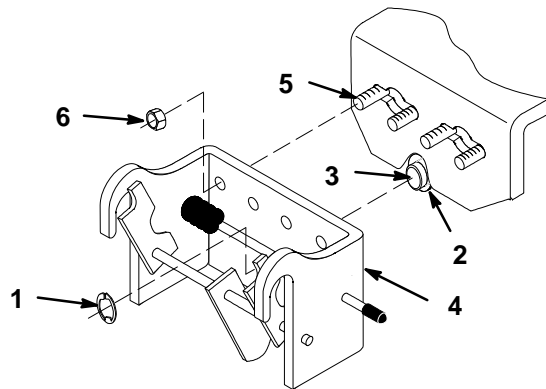

Figure 5
1. Remove E-ring and all washers except one thick washer from tractor front axle pivot pin. Discard unused washers. (Fig. 5). Remove muffler shield.
2. Install (4) 3/8–16 x 1" (26 mm) carriage bolts into keyhole slots in axle bracket. Install muffler shield and place front hitch onto the tractor securing with (4) 3/8" locknuts and previously removed E-ring (Fig. 5).